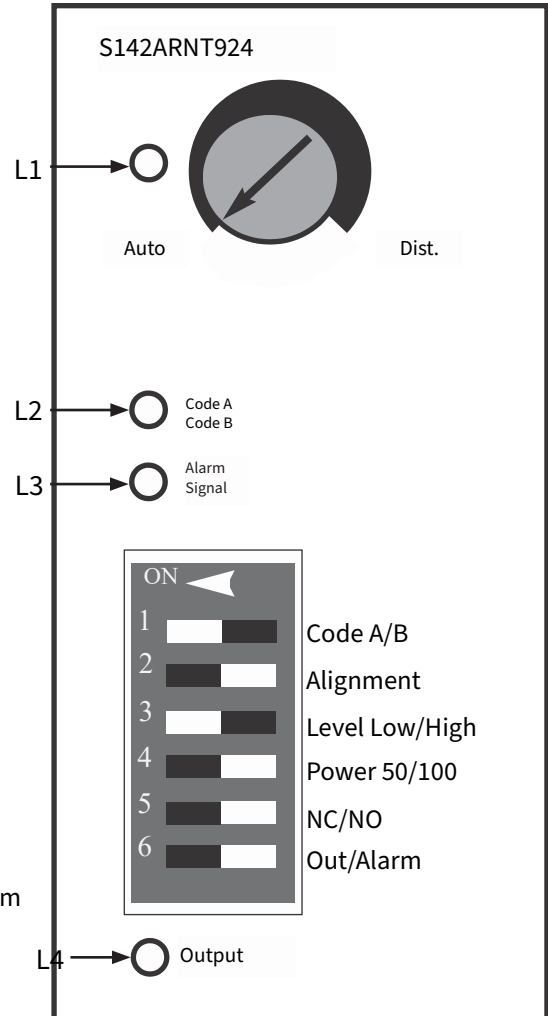

Figure 53: Photoeye Amplifier Controls
4. Lights 1 & 2 will illuminate green. Lights 3 & 4 will illuminate amber. Refer to Figure 53.